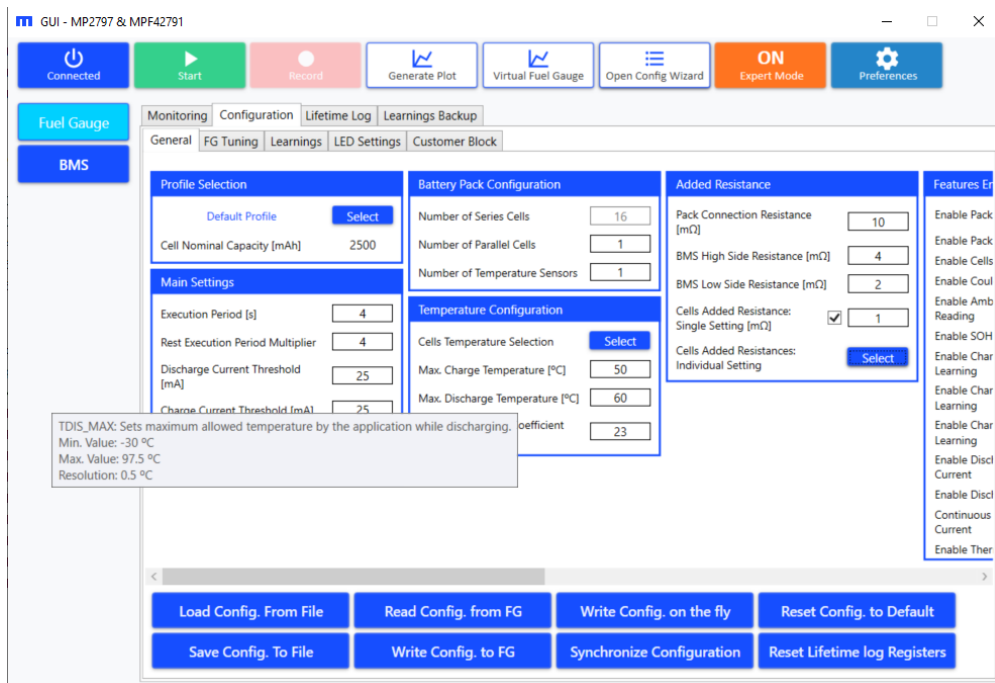

Figure 45: Fuel Gauge Configuration (Register Details)
- d. Place the cursor on top of a register name to display that register’s information (see Figure 45). For more detailed information on the registers, refer to the MPF4279x datasheet.
The new generation offers a wide variety of learning configurations that can enhance performance. Hover the cursor over a parameter to read about that parameter’s information (see Figure 45 on page 34).